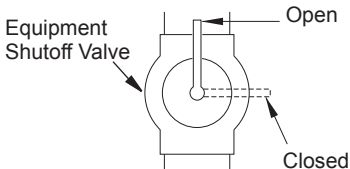

Figure 10 - Equipment Shutoff Valve
1. Close equipment shutoff valve (see Figure 10).
1. Open equipment shutoff valve (see Figure 10, page 14).